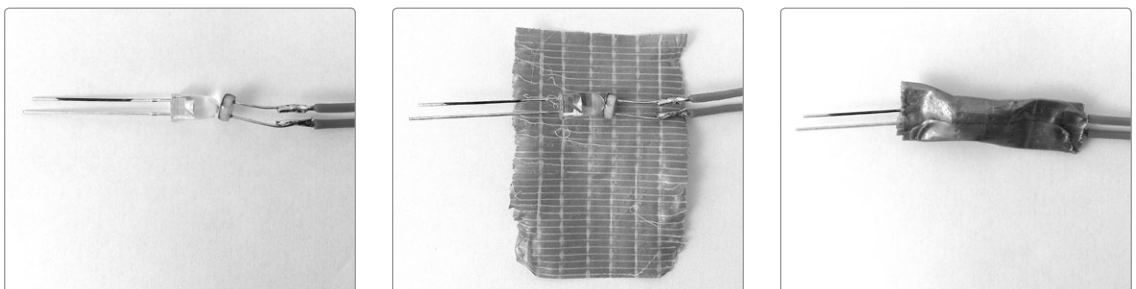

FIGURE 13-13: *Building the optocoupler. (Note the black stripe denoting the negative LED leg.)*
Step 13 Now build the optocoupler. Cut two 4-inch lengths of insulated wire, preferably stranded. Strip and tin both ends. Then solder one end of each wire to each leg of the photoresistor. Take one LED and mark its negative leg to make it easier to identify later; the negative leg is closest to the flat section on the edge of the LED lens and is usually the shorter lead. Place the LED snout to snout with the prepared photoresistor so that the head of the LED and the head of the resistor are touching, as shown in Figure 13-13 (left). Wrap the two components in a layer of duct tape. Be sure to pinch the tape down and seal it behind the resistor and LED so that no light can leak in or out. Light leaks can interfere with this sort of light-dependent control, making it annoyingly inconsistent and a pain to troubleshoot later.